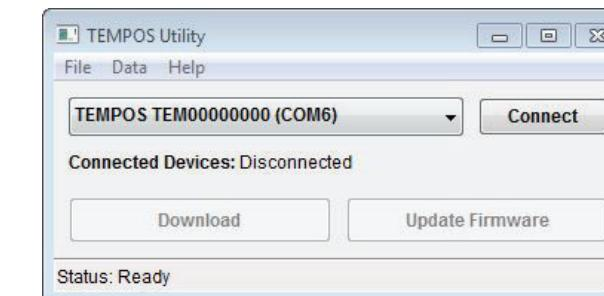

Figure 26 TEMPOS Utility downloader
2. Once connected, the controller serial number will appear in the TEMPOS Utility dropdown (Figure 26). If more than one TEMPOS is connected via USB, each will show in the dropdown.
5. Click the Update Firmware button in the TEMPOS Utility screen (Figure 26).
Once the downloader is installed, TEMPOS Utility will open a new window (Figure 26). The software can now be used to download data from TEMPOS.
5. Press Download to download the data stored on the controller (Figure 26).